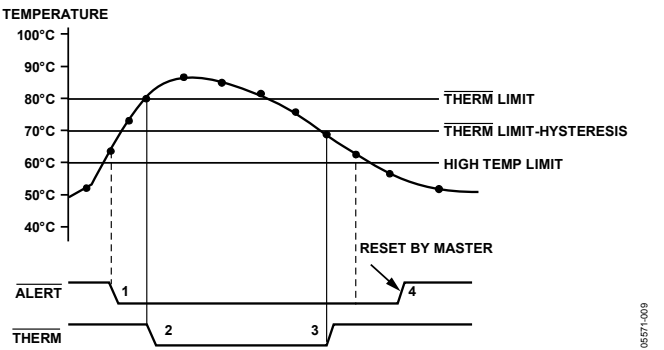

Figure 20. Operation of the $\overline{\text{ALERT}}$ and $\overline{\text{THERM}}$ Interrupts
Figure 20 shows how the $\overline{\text{THERM}}$ and $\overline{\text{ALERT}}$ outputs operate. The $\overline{\text{ALERT}}$ output can be used as a $\overline{\text{SMBALERT}}$ to signal to the host via the SMBus that the temperature has risen. The user can use the $\overline{\text{THERM}}$ output to turn on a fan to cool the system, if the temperature continues to increase. This method ensures that there is a fail-safe mechanism to cool the system, without the need for host intervention.
- The $\overline{\text{THERM}}$ output deasserts (goes high) when the temperature falls to $\overline{\text{THERM}}$ limit minus hysteresis. In Figure 20, the default hysteresis value of 10°C is shown.